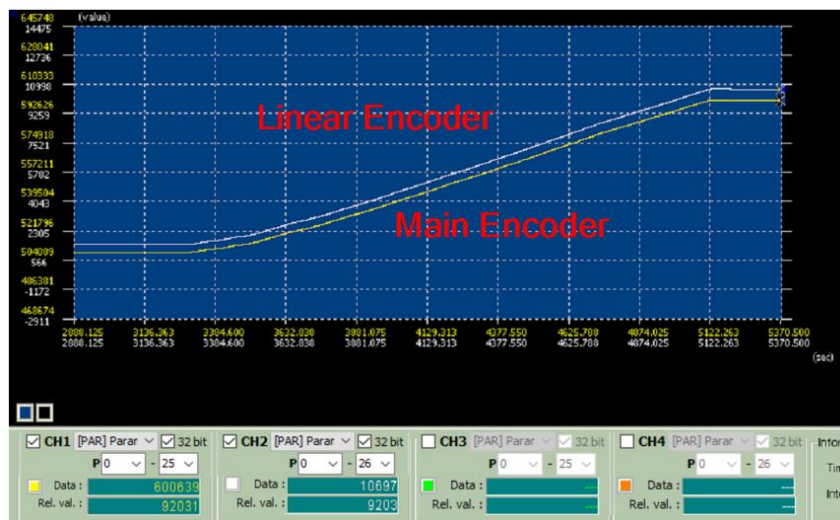
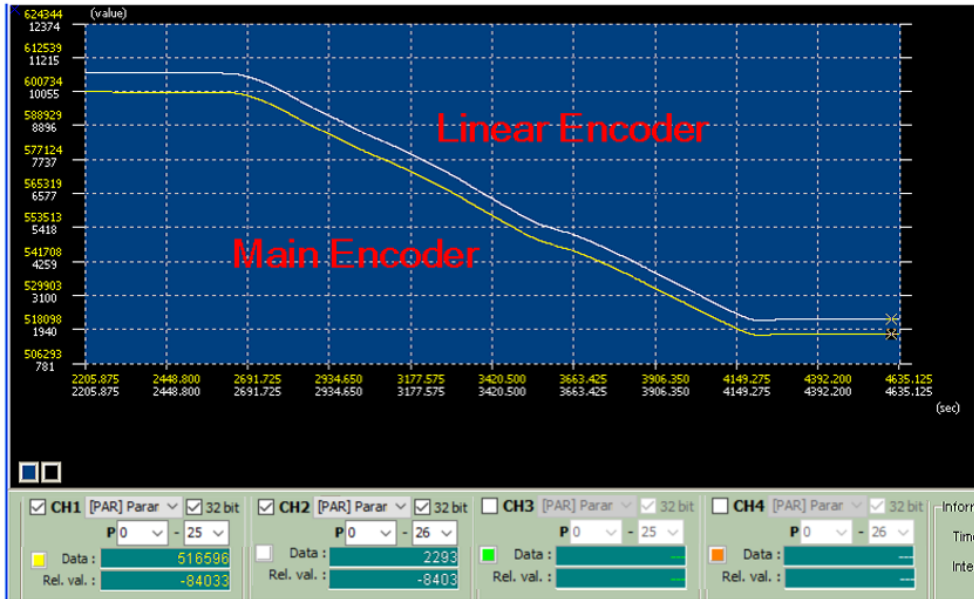

Figure 2.4.2 Same pulse trend for main and linear encoders in forward direction
Figure 2.4.3 Same pulse trend for main and linear encoders in reverse direction
- Without activating the full-closed loop, servo ON the drive, use JOG function to move the motor slowly towards one direction and make sure there will be no collision, then monitor the scope. If the waveform is like either one scope file in Figure 2.4.2 or Figure 2.4.3, it means the pulse trend of both encoders is the same and correct, whether being positive or negative trend, then there's no need to adjust P1-74.Z.